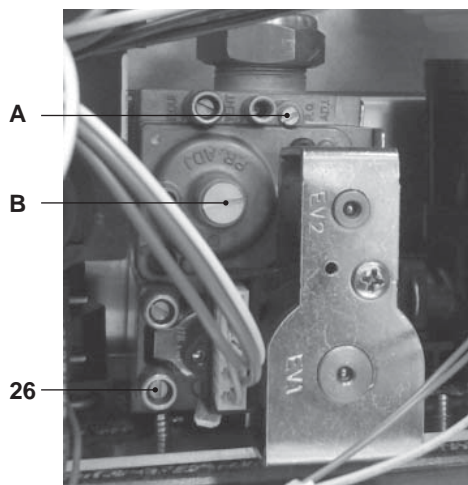

Fig. 7.9
- When the boiler is switched off (out of order), check the supply pressure by using the 26 point in Fig. 7.9 and compare the value read with that reported on the Gas supply pressure table in the "Technical Data" section (pag. 24 Activ A 18S, pag. 26 Activ A 25S and pag. 28 Activ A 30S).
- Close well the pressure point 26 in Fig. 7.9.